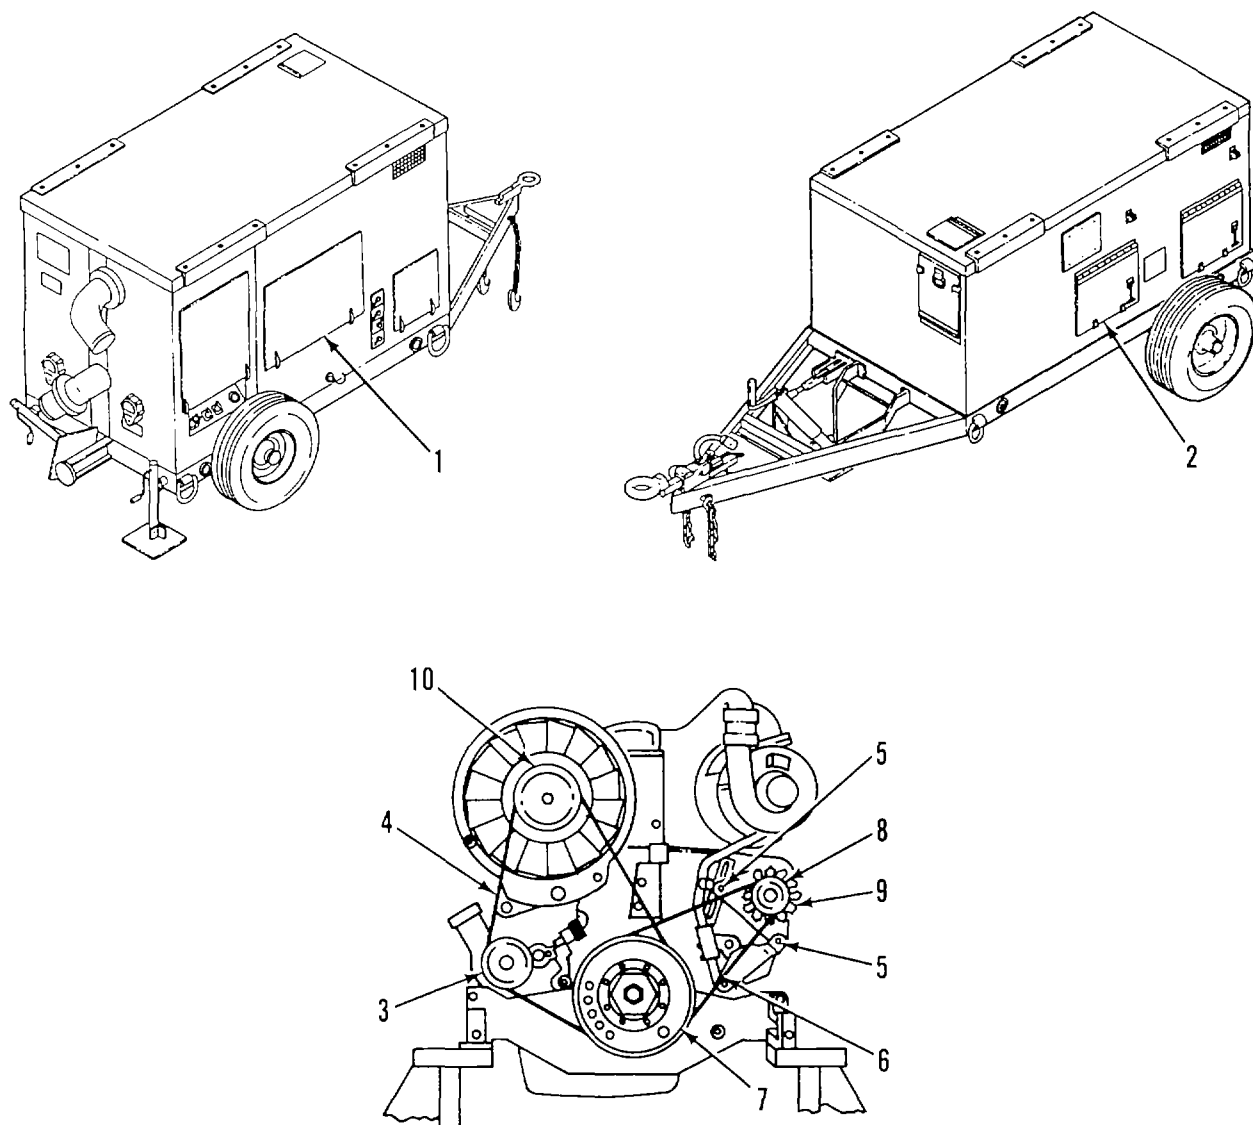

Figure 2-28. V-Belts
a. **REMOVE.** (Figure 2-28)
- (1) Open engine access doors (1 and 2).
- (2) Push up on idle pulley (3) and relieve tension to the cooling blower V-belt (4).
- (3) Remove cooling blower V-belt (4).
- (4) Loosen the two adjustment bolts (5) for the alternator V-belt adjustment.
- (5) Remove alternator V-belt (6).